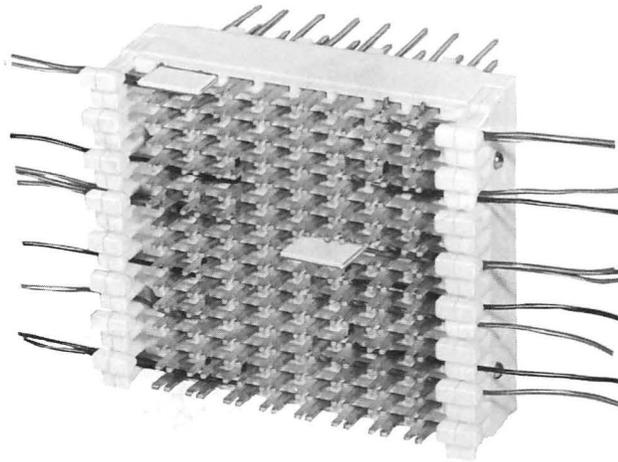

Fig. 14—Special Service Marking on 78A1-64 Block
3.13 The C clip-terminal insulator (Fig. 14) is for use on the 78A1-64 connecting block.